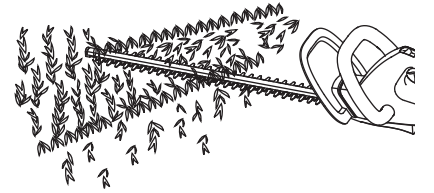

Fig. 6
- When trimming new growth, use a wide sweeping action, so that stems are fed directly into the trimmer blade (Fig. 6). Older growth will have thicker stems and will be trimmed easiest by using a sawing motion.